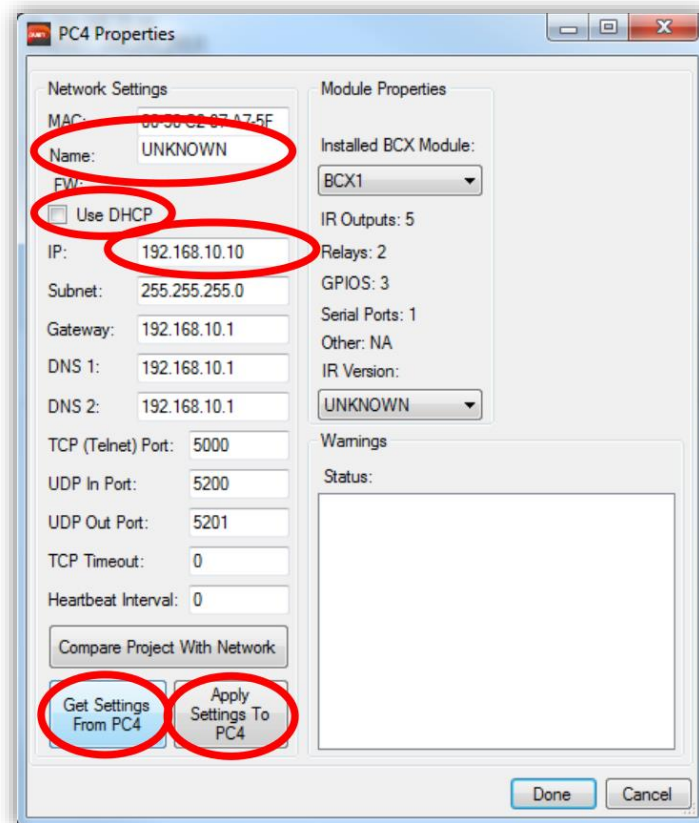

Figure 3 - The PC4 Properties Window: highlighting the fields required to add a PC4 manually.
- In the properties window (*Refer to Figure 3*) click on “Get Settings from PC4”, this will upload vital information to the box (specifically the IR Version)